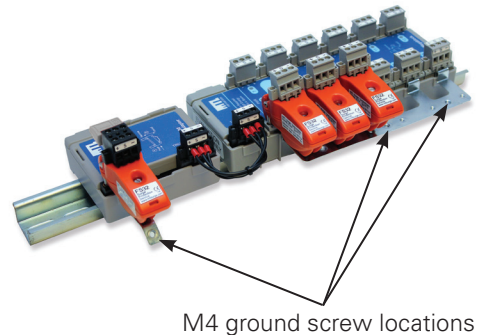

Figure 4.8- With some FS32 modules
3. Use an M4 screw and ring terminal to connect the grounding bar to a suitable low-impedance ground point- see Figure 4.8.